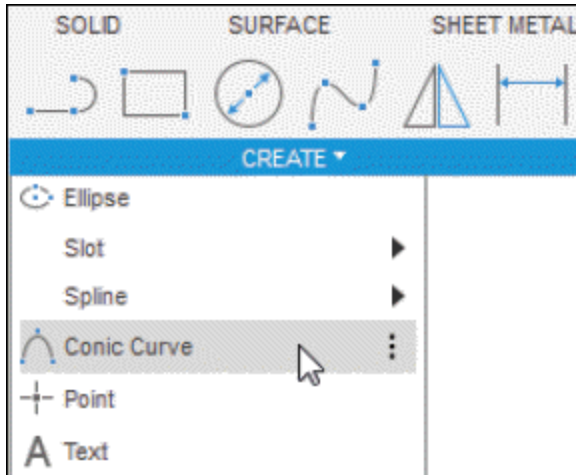

Figure-40. Conic Curve tool
- Click on **Conic Curve** tool of **CREATE** drop-down from **Toolbar**; refer to Figure-40.